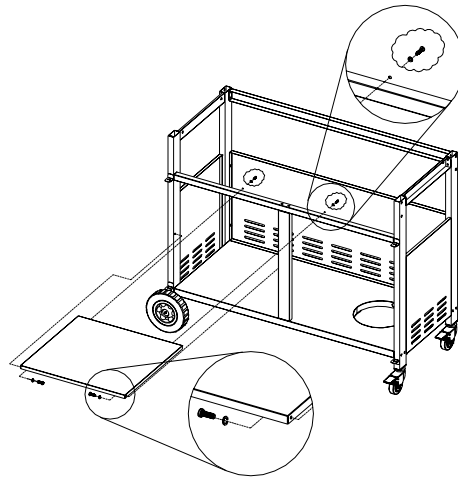

Figure 8
4. Attach the cart clapboard to the rear panel and front cart support using (4) $\frac{5}{32} \times \frac{2}{5}$ " Phillips head screws and (4) $\frac{5}{32}$ " lock washers. (Fig.8)